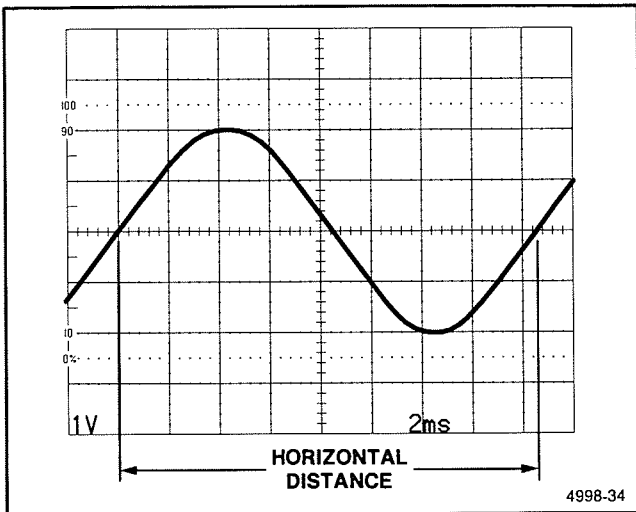

Figure 6-21. Time duration.
5. Position the display to place the time-measurement points on the center horizontal graticule line (see Figure 6-21).
EXAMPLE: The distance between the time-measurement points is 8.3 divisions (see Figure 6-21), and the A SEC/DIV switch is set to 2 ms. The X10 Magnifier switch is pushed in (1X magnification).
EXAMPLE: The signal in Figure 6-21 has a time duration of 16.6 ms.